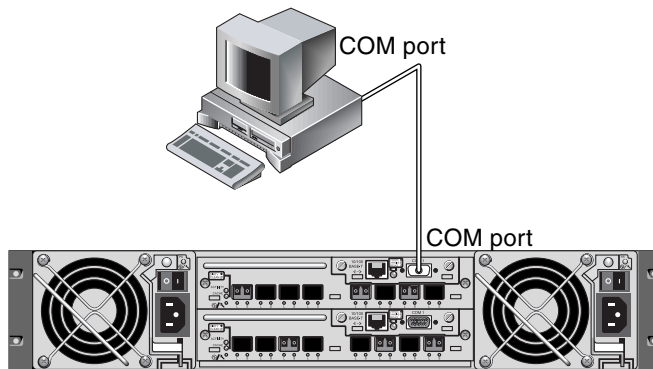

FIGURE E-1 RAID Array COM Port Connected Locally to the Serial Port of a Workstation
1. Connect the RAID array COM port to the serial port of a Solaris workstation, as shown in FIGURE E-1. Use the `tip` command to access the array locally: